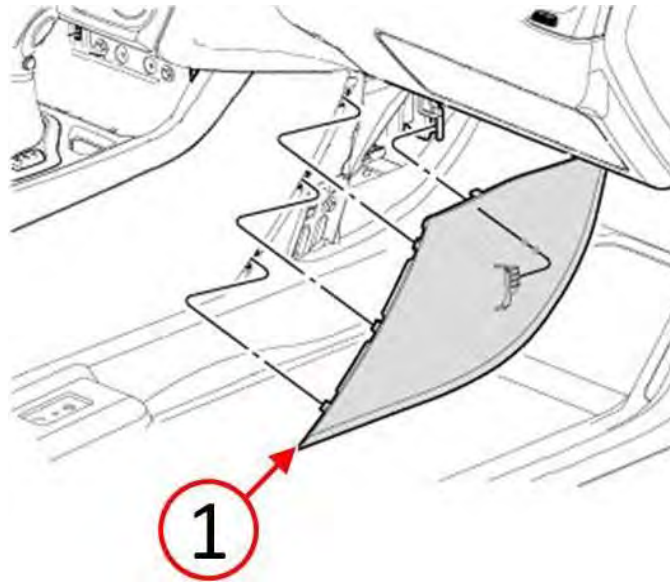

Fig. 6 Remove Right Side Floor Console Panel
- Using a trim stick or equivalent, disengage the retaining tabs then remove the right side floor console panel (1) (Fig. 6).